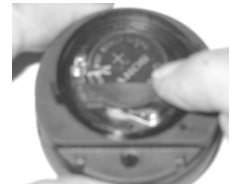

Fig. 112 - RETAINING BAR
- Orient the Retaining Bar across the lower portion of the Battery and carefully push it down into position (Fig. 112).